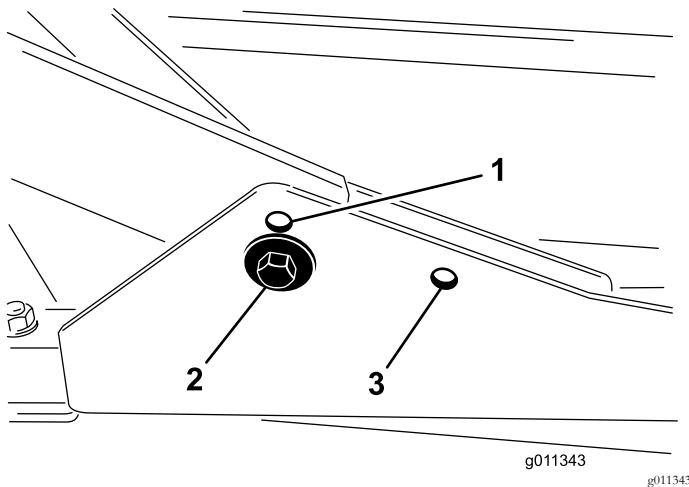

Figure 8
1. For heights of cut between 2.0 to 7.6 cm (0.75 to 3 inches), mount the front carrier frames in the lower front mounting holes (Figure 8).
2. For heights of cut between 6.3 to 10 cm (2.5 to 4 inches), mount the front carrier frames in the upper front mounting holes (Figure 8).
For all heights of cut, mount the rear cutting deck in the rear-mounting holes (Figure 8).